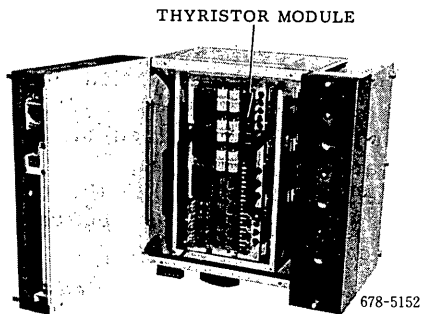

Fig. 6 Converter Unit with Front Cover Opened
- Open the front cover by loosening the two cover set screws. See Fig. 6.